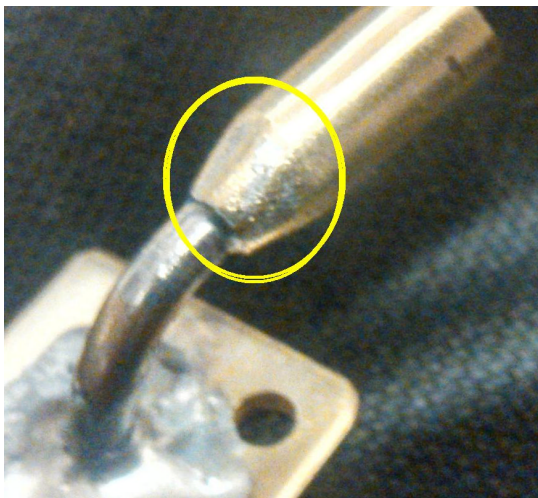

Figure 21
5. **Soldering the Hood and Neck** Refer to **Figures 15, 16, 17, 18**. Solder the area a using low temperature high strength alloy solder as shown while ensuring correct alignment of the neck and hood pieces. Allow pieces to sufficiently cool. Re-check alignment and make any adjustments if needed. Remove Teflon sleeving and rinse soldered areas with clean water and dry. Verify inside the hood, the **neck opening** is completely clear of solder, if not use various sizes of drill bits installed in a pin vise to remove excessive solder, **AVOID USING POWER DRILLS** as their torque will twist and deform the hood and/or neck if the drill bit snags inside the hood. Depending on the amount of solder that has built up during soldering of the hood/neck joint, some removal of the excess solder and /or exposed edges of the twisted hood sections may need filing down and smoothed as shown in **Figure 21**. Verify solder has flowed inside the very back area of the hood and has completely encircled the neck tubing **but not entered the neck opening**.